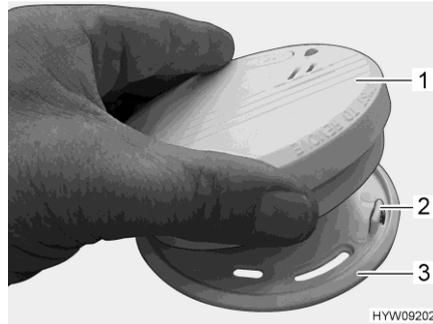

Fig. 183 Fit the smoke alarm
- Place the smoke alarm (Fig. 183,1) onto the holder (Fig. 183,3). The holding lugs (Fig. 183,2) must engage in the openings (Fig. 182,3) in the smoke alarm.